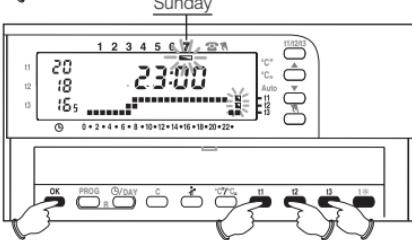
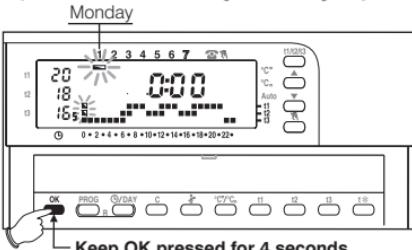

Fig. 20
Fig. 21
Once the temperature profile is set for Sunday (7) press, **OK** (fig. 20) to save and return to Monday's (1) settings, then press OK once again for 4 seconds (fig. 21); **this operation saves the complete weekly program.**